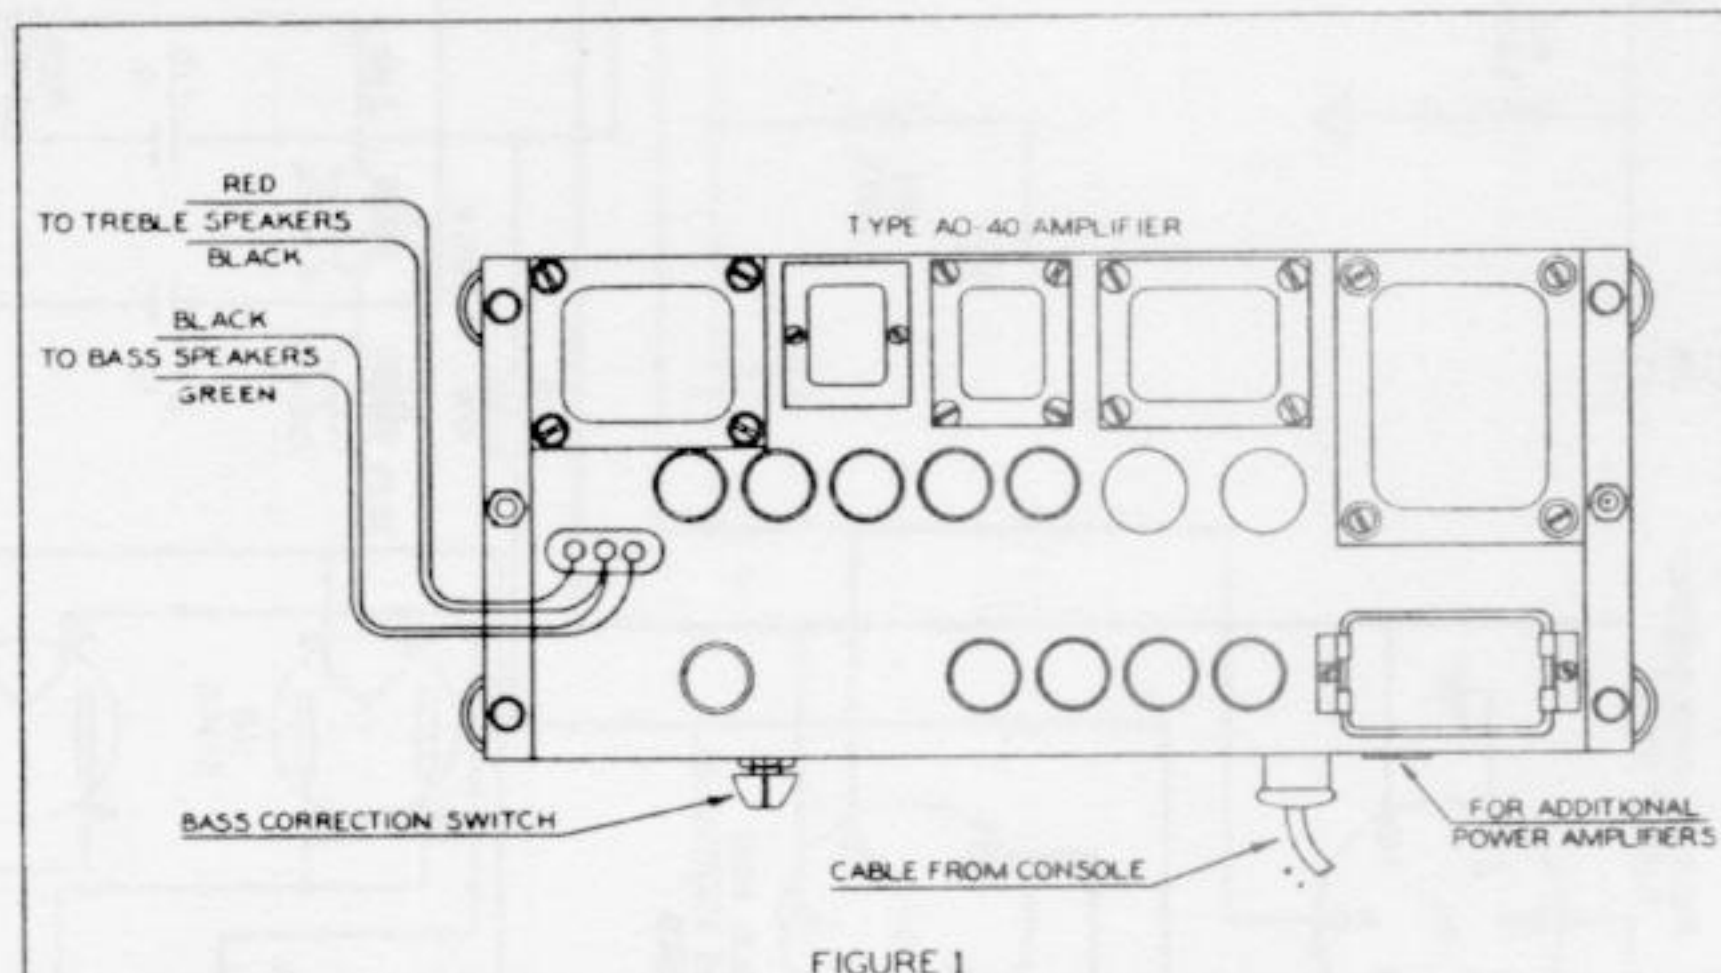

FIGURE 1
The room size control switch located on the amplifier, "B" in Fig. 1, is provided with a slot for adjustment of the bass volume to compensate for variations in room size. When used in a small room, it should be adjusted to reduce the bass volume for best tonal balance. Approximate settings for rooms with average furnishings will be as follows:
The Reverberation Unit must be locked before moving cabinet or unit; otherwise, delicate parts will be damaged because of bouncing of the three coil springs when hanging free. To lock the Reverberation Unit, insert screwdriver in slot at end of lock rod "A" shown in Fig. 1 and turn 1/4 turn counterclockwise. If cabinet has rear grille, an opening is provided in grille cloth to allow access to lock rod. Never remove tubes from their sockets without first turning off power at console.
Unlock Reverberation Unit by inserting screwdriver in slot at end of lock rod "A" shown in Fig. 1 and turning 1/4 turn clockwise so that slot is vertical. If cabinet has rear grille, an opening is provided in grille cloth to allow access to lock rod.
Cabinet must be level and must not rock. Floor must be firm to avoid vibration. Connect console-to-cabinet cable as shown in Fig. 1.
Additional tone cabinets may be connected to this unit by using a 5-conductor cabinet-to-cabinet cable connected to socket marked "ADDITIONAL POWER AMPLIFIERS" in Fig. 1. Signal at this point comes directly from console and does not have reverberation. If additional cabinets are not Type PR or QR, inquire of your Hammond dealer or the factory Service Department on use of isolating transformer. If total input wattage of all cabinets exceeds rating on console nameplate, auxiliary power relay must be provided.
2. Connect console-to-cabinet cable as shown in Figure 1.
Additional tone cabinets may be connected to this unit by using 5-conductor cabinet-to-cabinet cable connected to socket marked "Additional Power Amplifiers" in Fig. 1. Signal at this point comes directly from console.
Connect console-to-cabinet cable as shown in Fig. 1.